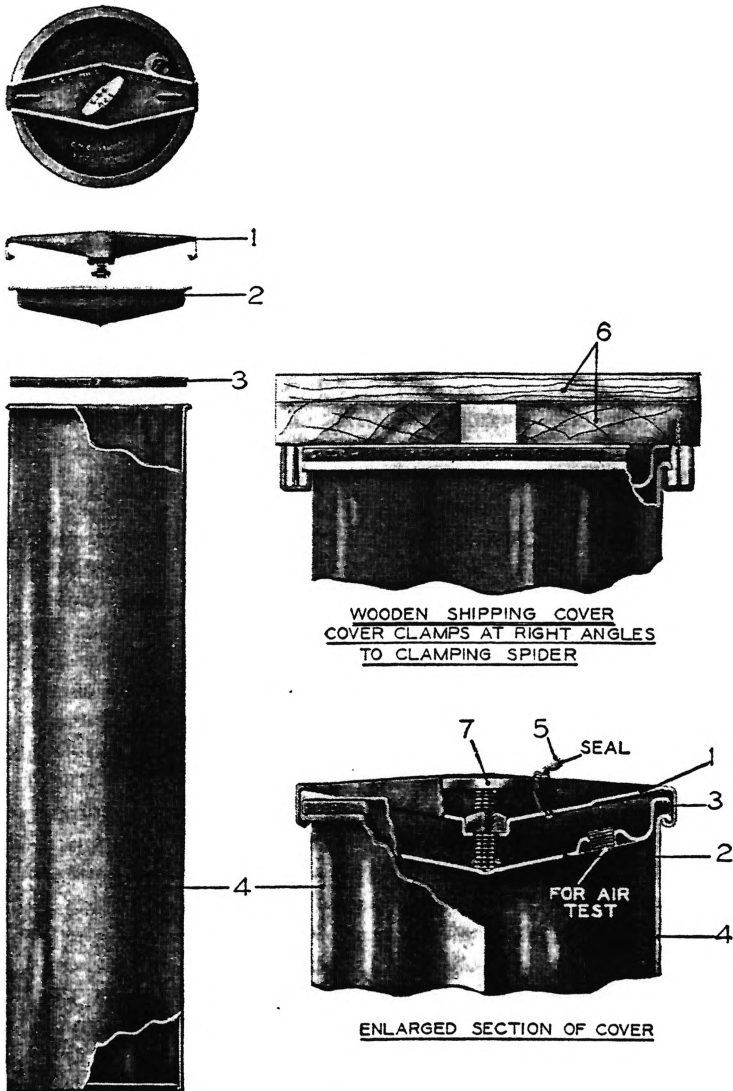

FIG. 25.—Cartridge storage case, Mk. I
(3) Each container is also stenciled on the outside wall or has a printed tag glued to the wall with the following information:
(4) The propelling charge is held in the fiber container to prevent excessive movement by means of a disk of heavy cardboard placed on top of the charge, and on top of this disk is placed a triangular-shaped spacer made of this same heavy cardboard, of a length sufficient to take up the space between the cardboard disk on top of the charge and the top end of the cartridge storage case.
(5) Fiber cartridge storage cases are shipped in wooden boxes, four cases being packed in each box. This box is approximately  $41\frac{5}{8}$  inches long,  $14\frac{3}{4}$  inches wide, and  $14\frac{3}{4}$  inches high, and is fitted with a rope handle at each end. The inside of the box is lined with a heavy waterproof paper bag, which is sealed with a waterproof cement after the fiber cartridge storage cases are packed. Sheets of heavy cardboard are placed inside the waterproof paper lining to take up any lengthwise motion of the cases. These boxes are stenciled on both ends and one side with the same information that appears on the cartridge storage case described in (3) above.
*c. Metal cartridge storage case.*—(1). The cartridge storage case Mk. I is made of metal and is shown in Figure 25. This is a non-expendable item, whereas the fiber cartridge storage case can be used but once. It is approximately of the same dimensions as the fiber cartridge storage case. It is made of heavy gauge sheet steel, the seam in the body and the joint where the bottom attaches to the body being welded. The cover (2) is clamped to the body (4) by a clamping spider (1), the hooked ends of which engage under the flange at the mouth of the cover. The cover is sealed to the body against the entrance of moisture by a rubber gasket (3). The clamp screw (7) is used to compress the rubber gasket between the cover and the body, thus insuring an air-tight seal. This rubber gasket should be examined frequently, and it should be replaced by a fresh rubber gasket when it has stretched or dried out to such an extent as to render leakage possible. To remove the charge it is necessary